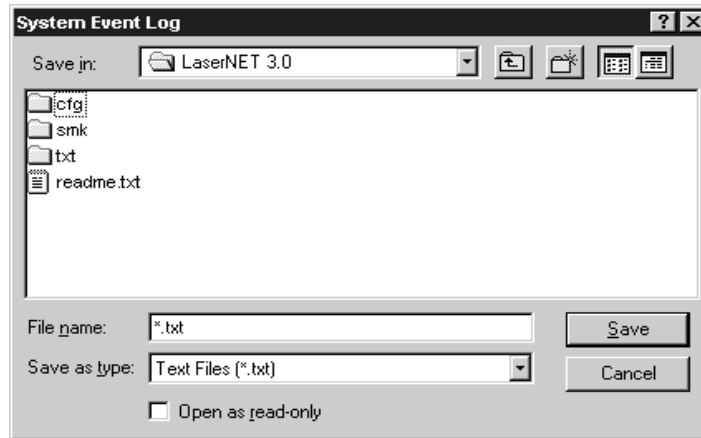

Figure 7-27. System Event Log Save Window
- d. Select **<OK>**. The System Event Log Save window opens, as shown in Figure 7-27.